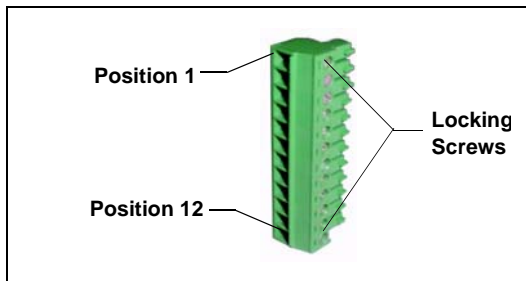

Figure D-2. 12-Position Connector Plug
1. Locate the twisted pair of wires (P/N 043598) and the 12-position connector plug (P/N 923687) (see Figure D-2) in the ICS-2000 Ship Kit (P/N 064375).